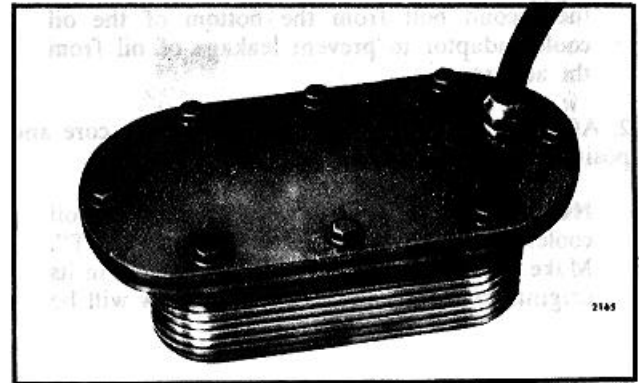

Fig. 2 Oil Cooler Core Prepared for Pressure Check
1. Make a suitable plate and attach it to the flanged side of the oil cooler core. Use a gasket made from rubber to ensure a tight seal. Drill and tap the plate to permit an air hose fitting to be attached at the inlet side of the oil cooler core (Fig. 2).